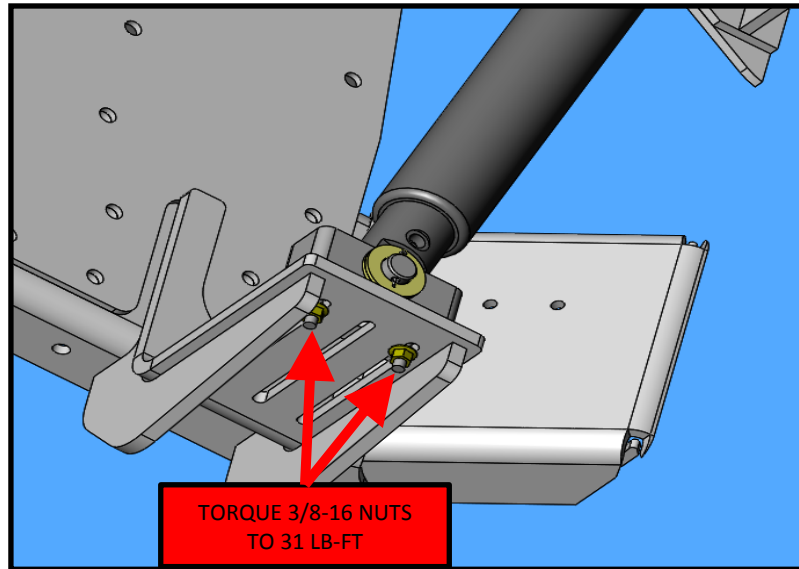

FIG. 22-1
36. Re-tighten the 3/8-16 flange nuts that were previously loosened in step 23. Making sure to torque to 31 lbf-ft. Refer to FIG 22-1.